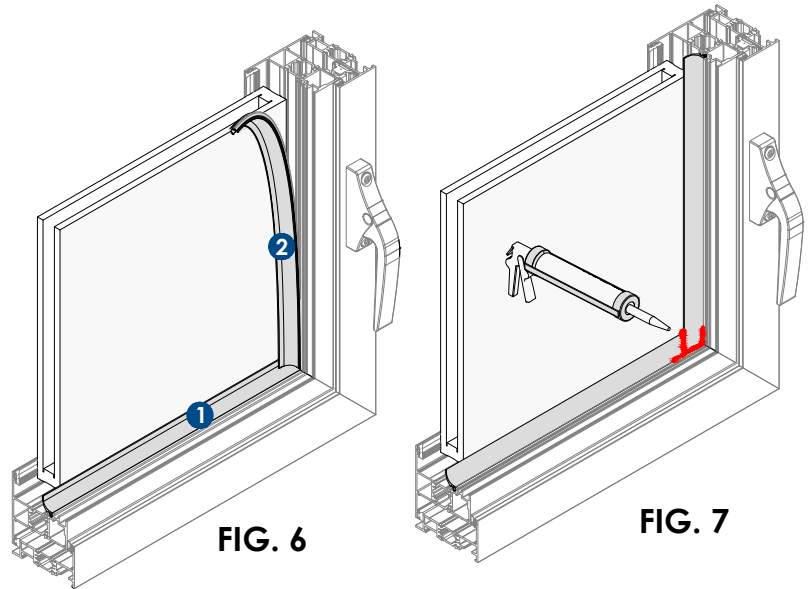

**FIG. 5**
- Starting at the sill, insert airseal gasket starting from one end, repeat this every 16 inches. Ensure opposite end of the gasket is inserted before rolling remaining gasket. Water with soap can be used to aid with gasket installation. See **FIG. 5**